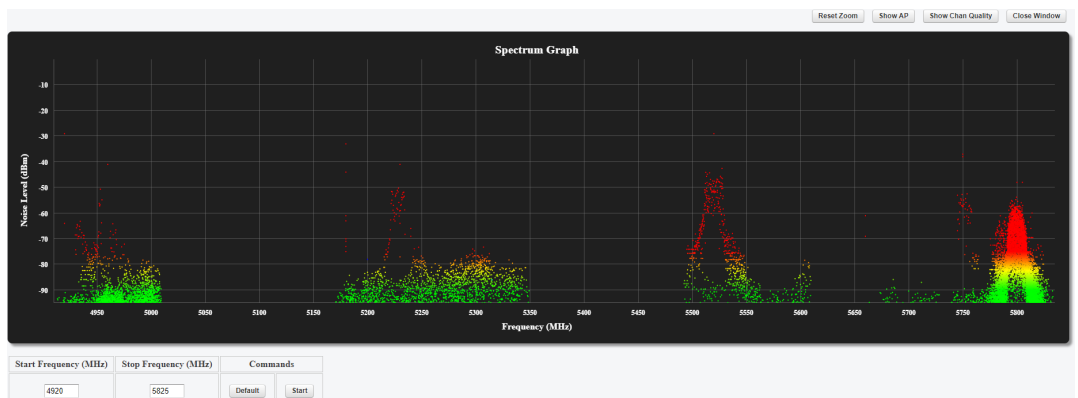

Figure 26. Spectrum Graph window (typical display)
- The **Spectrum Graph** window will open in a new web browser tab (Figure 26 \(page 71\)).